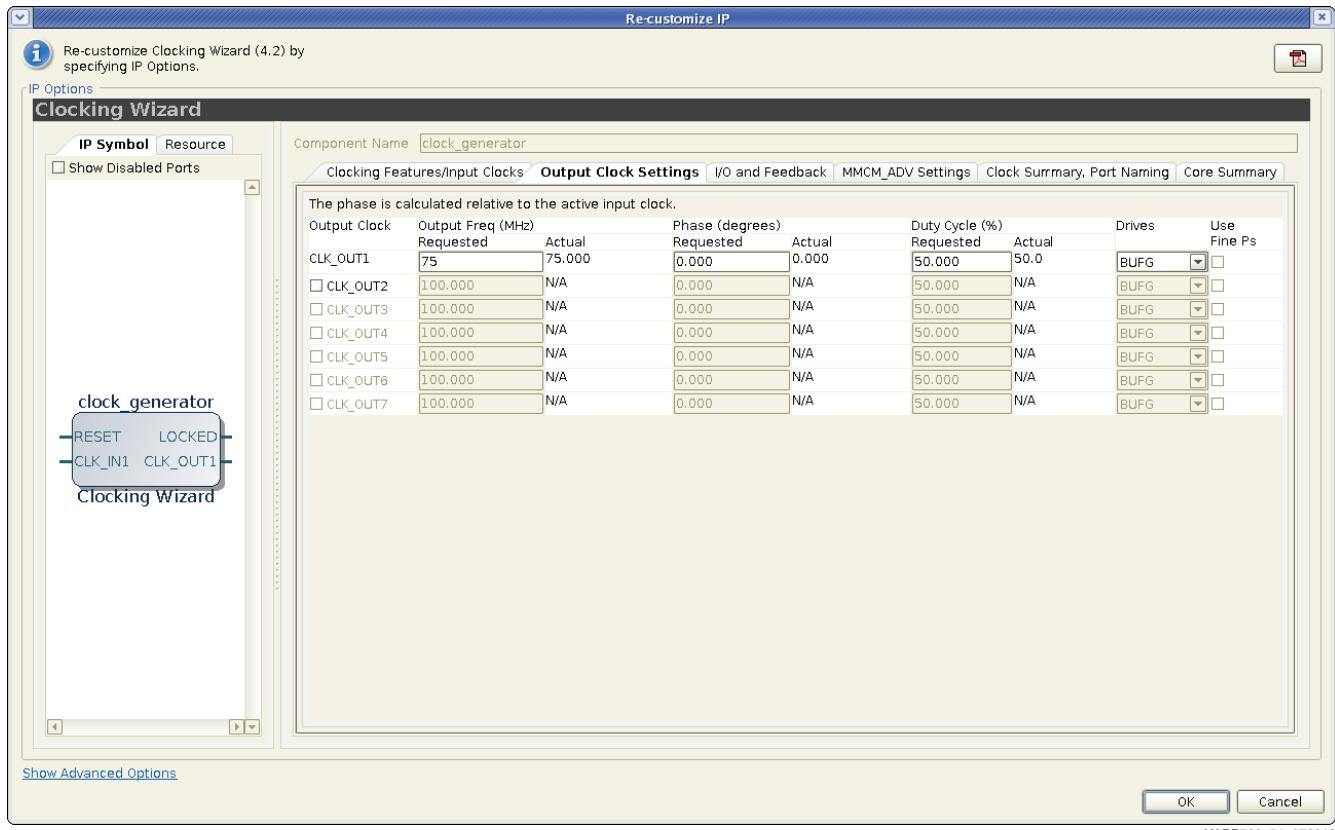

Figure 51: Clocking Wizard Output Clock Settings
42. Click the **Output Clock Settings** tab and make the following settings (Figure 51):